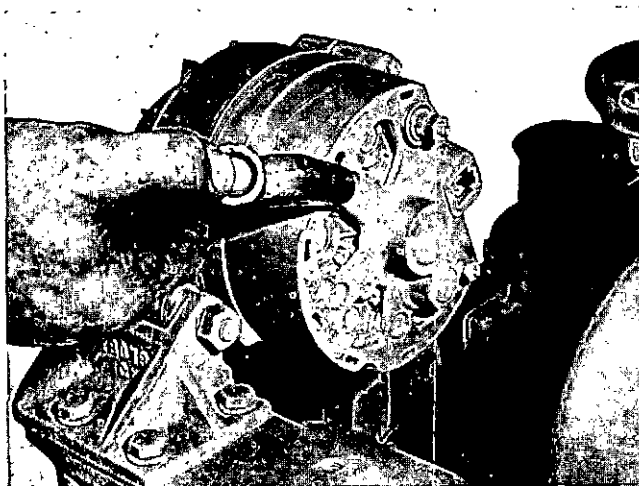

Fig. 5-35, V11925. Blowing dust from alternator
Remove cover band, if used, and blow out dust and dirt with compressed air. Fig. 5-35.
2. Slip rings and brushes can be inspected through alternator end frame assembly. If slip rings are dirty, they should be cleaned with 400 grain or finer polishing cloth. Never use emery cloth to clean slip rings. Hold polishing cloth against slip rings with alternator in operation and blow away all dust after cleaning operation. Fig. 5-35.